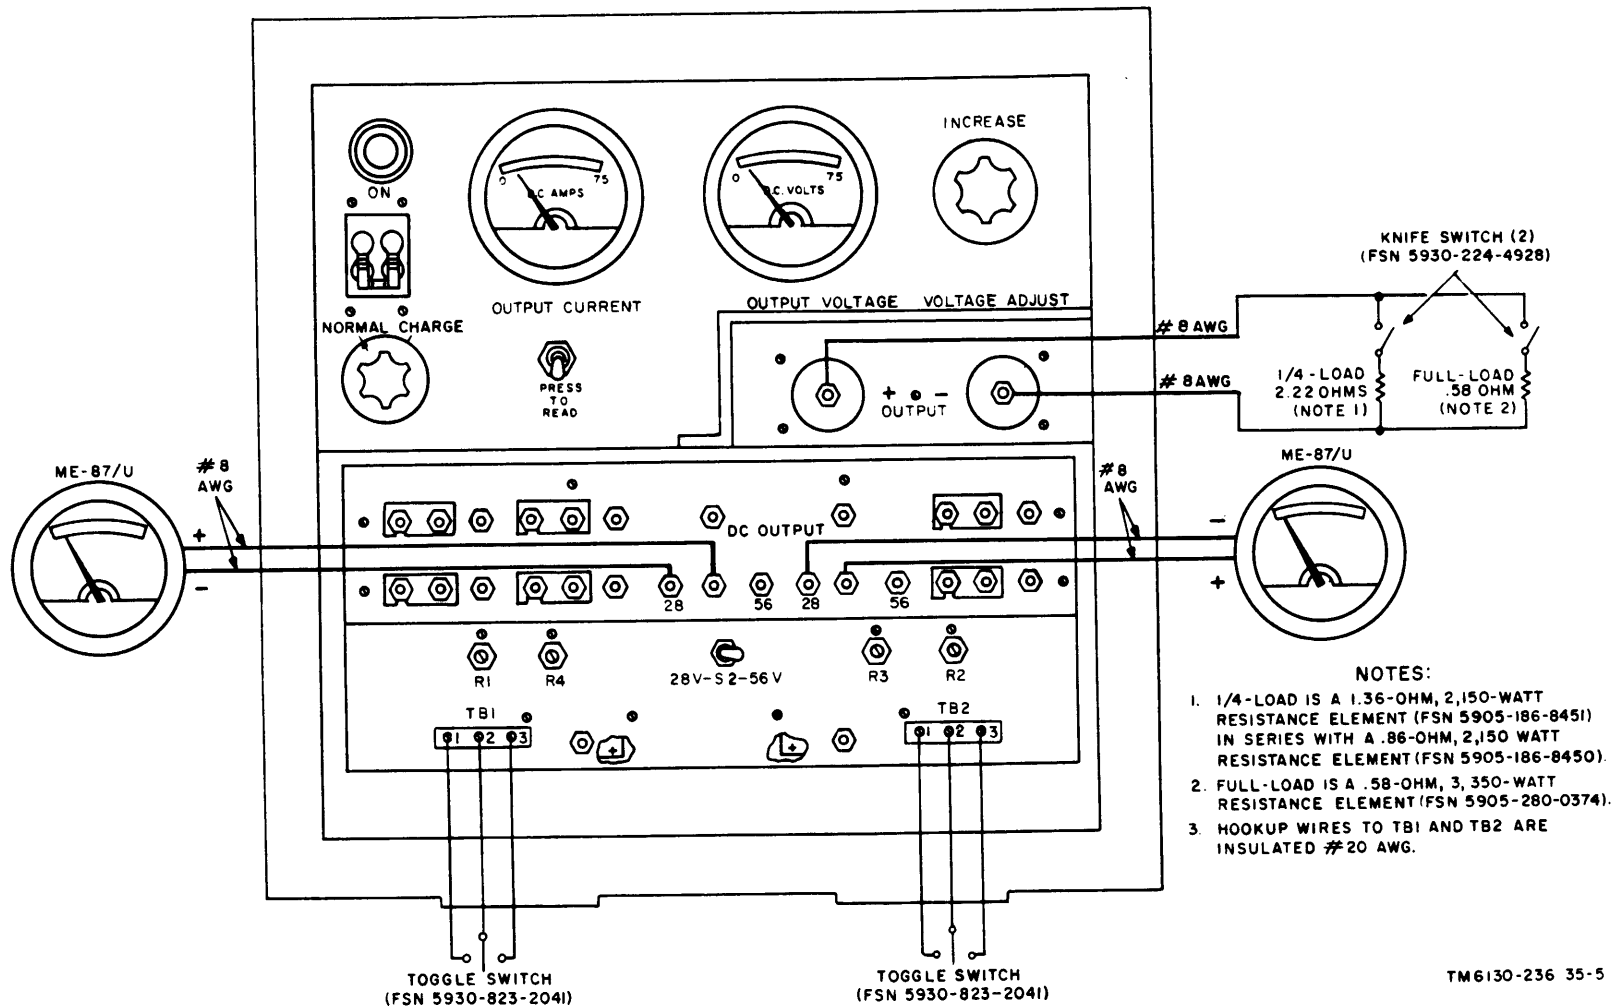

Figure 2-1. Adjustment of variable resistor R1, R2, R3, and R4 connection diagram.
**2-8. Adjustment of Variable Resistors R1, R2, R3, and R4 (fig. 2-1)**
- (1) Remove both of the 28 DC OUTPUT 56 links and connect the negative terminals of each of Multimeters ME-87/U (ammeter) connected as ammeters to each of the terminals marked 28.
- (2) Connect the positive terminals of each of the ammeters to each of the associated unmarked terminals as shown in figure 2-1.
- (3) Remove the shorting links from TB1 and TB2.
- (4) Connect toggle switches to TB1 and TB2 as follows:
- (5) Set the NORMAL-CHARGE switch to NORMAL, the 28V-S2-56V switch to 28V, and the VOLTAGE ADJUST control fully counterclockwise.
- (6) Connect the 1/4-load resistors (1.36-ohm in series with 0.86-ohm, total 2.22-ohms resistance) in series with one knife switch and the full-load resistor (0.58-ohm) in series with the other knife switch to the + OUTPUT - terminals as shown in figure 2-1. Set both knife switches to open position.
- (7) Set the power switch and circuit breaker to ON. After a 2-minute warmup, apply one-quarter load by closing the knife switch in series with the one-quarter load.
- (8) Rotate the VOLTAGE ADJUST control for an indication of 28 volts on the OUTPUT VOLTAGE meter.
- (9) Set the toggle switch connected to TB2 to its left position. Observe and note the indication on each ammeter. Set the same toggle switch to its right position. Observe and note the indication on each ammeter.
- (10) Set the toggle switch in the position (left or right) that provides the minimum current difference between the two ammeters. (For example, with the toggle switch set to the left, one ammeter indicates 4 amperes and the other ammeter indicates 8 amperes. With the toggle switch set to the right, one ammeter indicates 5 amperes and the other ammeter indicates 7 amperes. For this condition, the toggle switch is set to the right.) Adjust variable resistor R2 until the ammeters indicate the lowest value of imbalance.
- (11) Remove the one-quarter load by setting the series-connected switch to the open position. Apply full-load by closing the switch in series with the full-load.
- (12) Readjust R2 as necessary until the ammeters indicate the lowest value of imbalance. The greatest tolerable value of imbalance is 5 amperes of difference between both ammeters with a full load applied. Repair of the battery charger is required if an imbalance greater than 5 amperes exists after adjusting R2.
- (13) Remove the full load by setting the series connected knife switch to open position.
- (14) Set the toggle switch connected to TB1 to its left position. Observe and note the indication on each ammeter. Set the same toggle switch to its right position. Observe and note the indication on each ammeter.
- (15) Set the toggle switch in the position (left or right) that provides the minimum current difference between the two ammeters. Adjust variable resistor R1 until each ammeter indicates 0 current.
- (16) Set the power switch and circuit breaker to OFF.